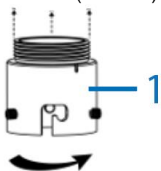

Figure 1
1. Insert the adaptor ring (1) (Figure 1) up into one of the following applicable mounts: Wall Mount long (RHOLW), Wall Mount short (RHOSW), and over the roof mount (RHOTB).